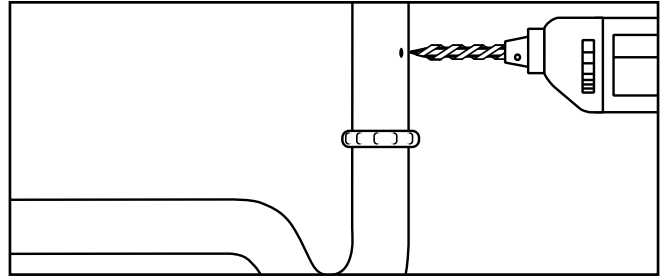

Figure 12
3. Remove the drain clamp from the drainpipe and enlarge the hole with a 3/8-inch drill bit (Figure 12). Use a file to remove rough edges from the drilled hole.